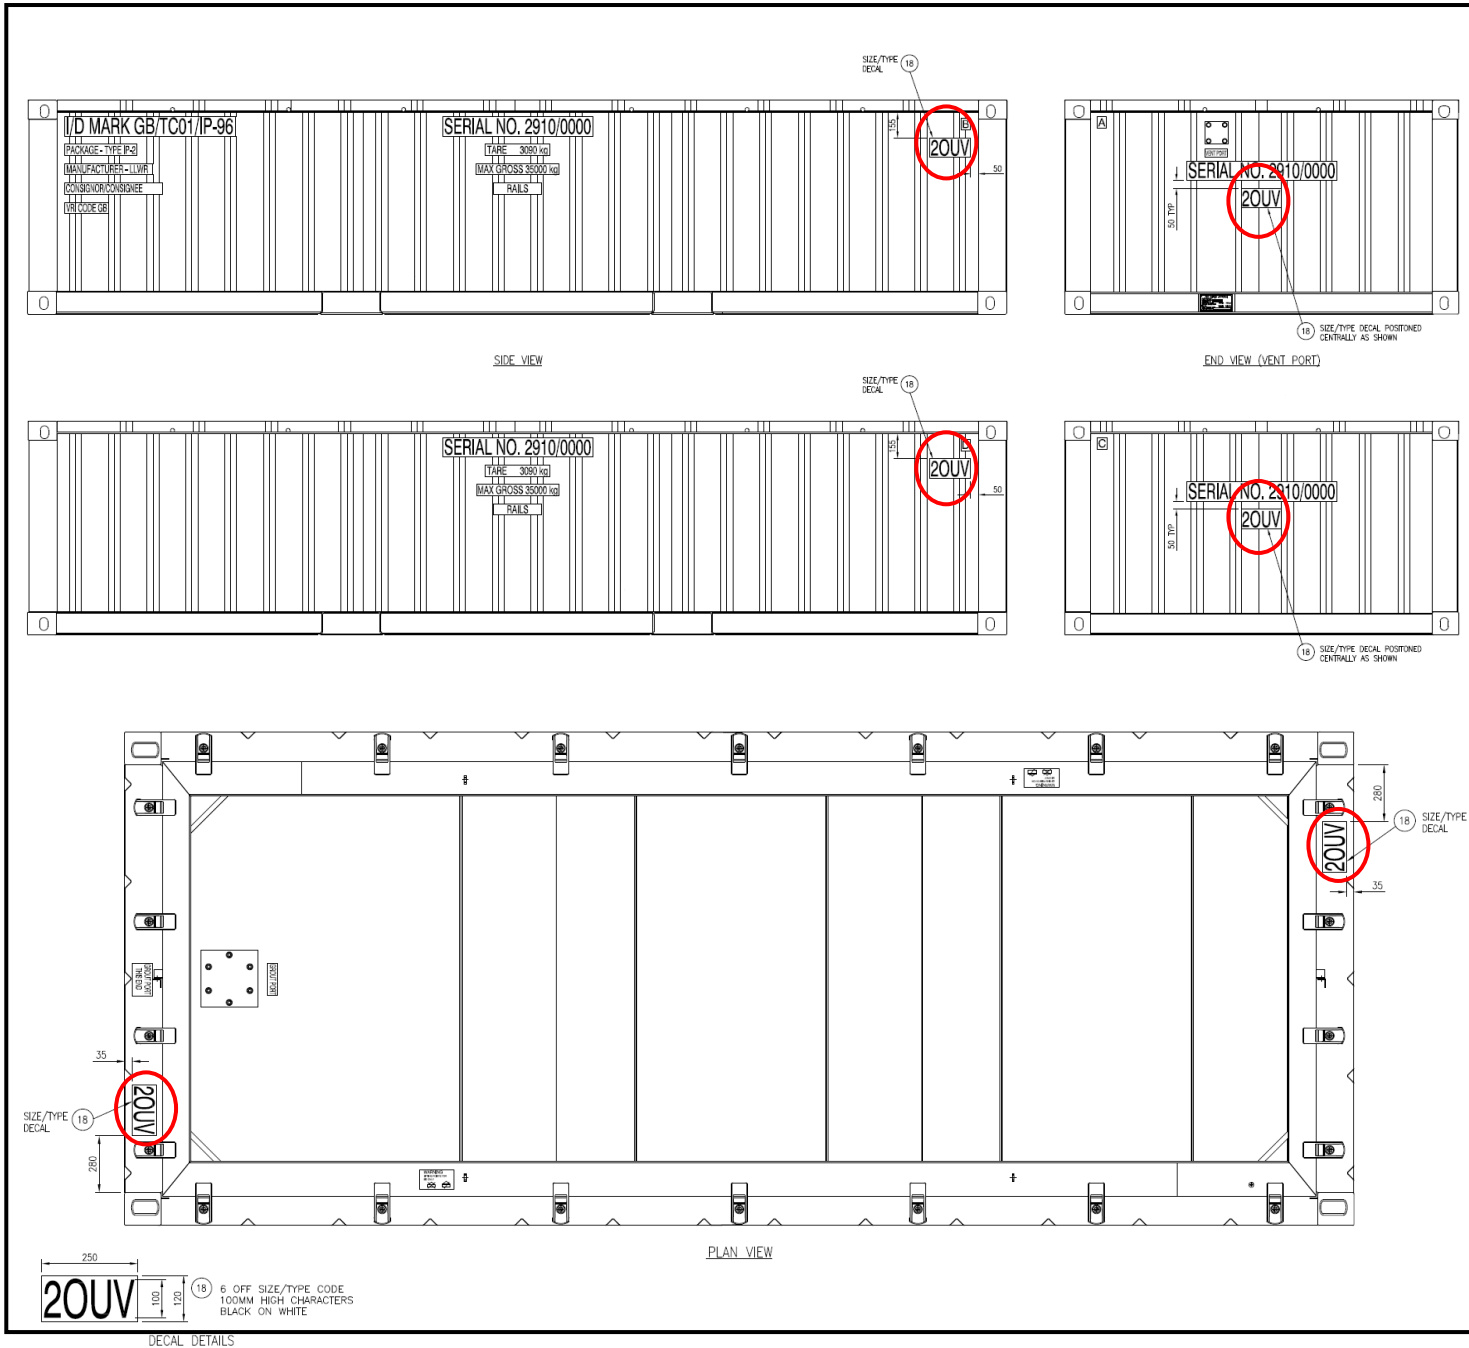
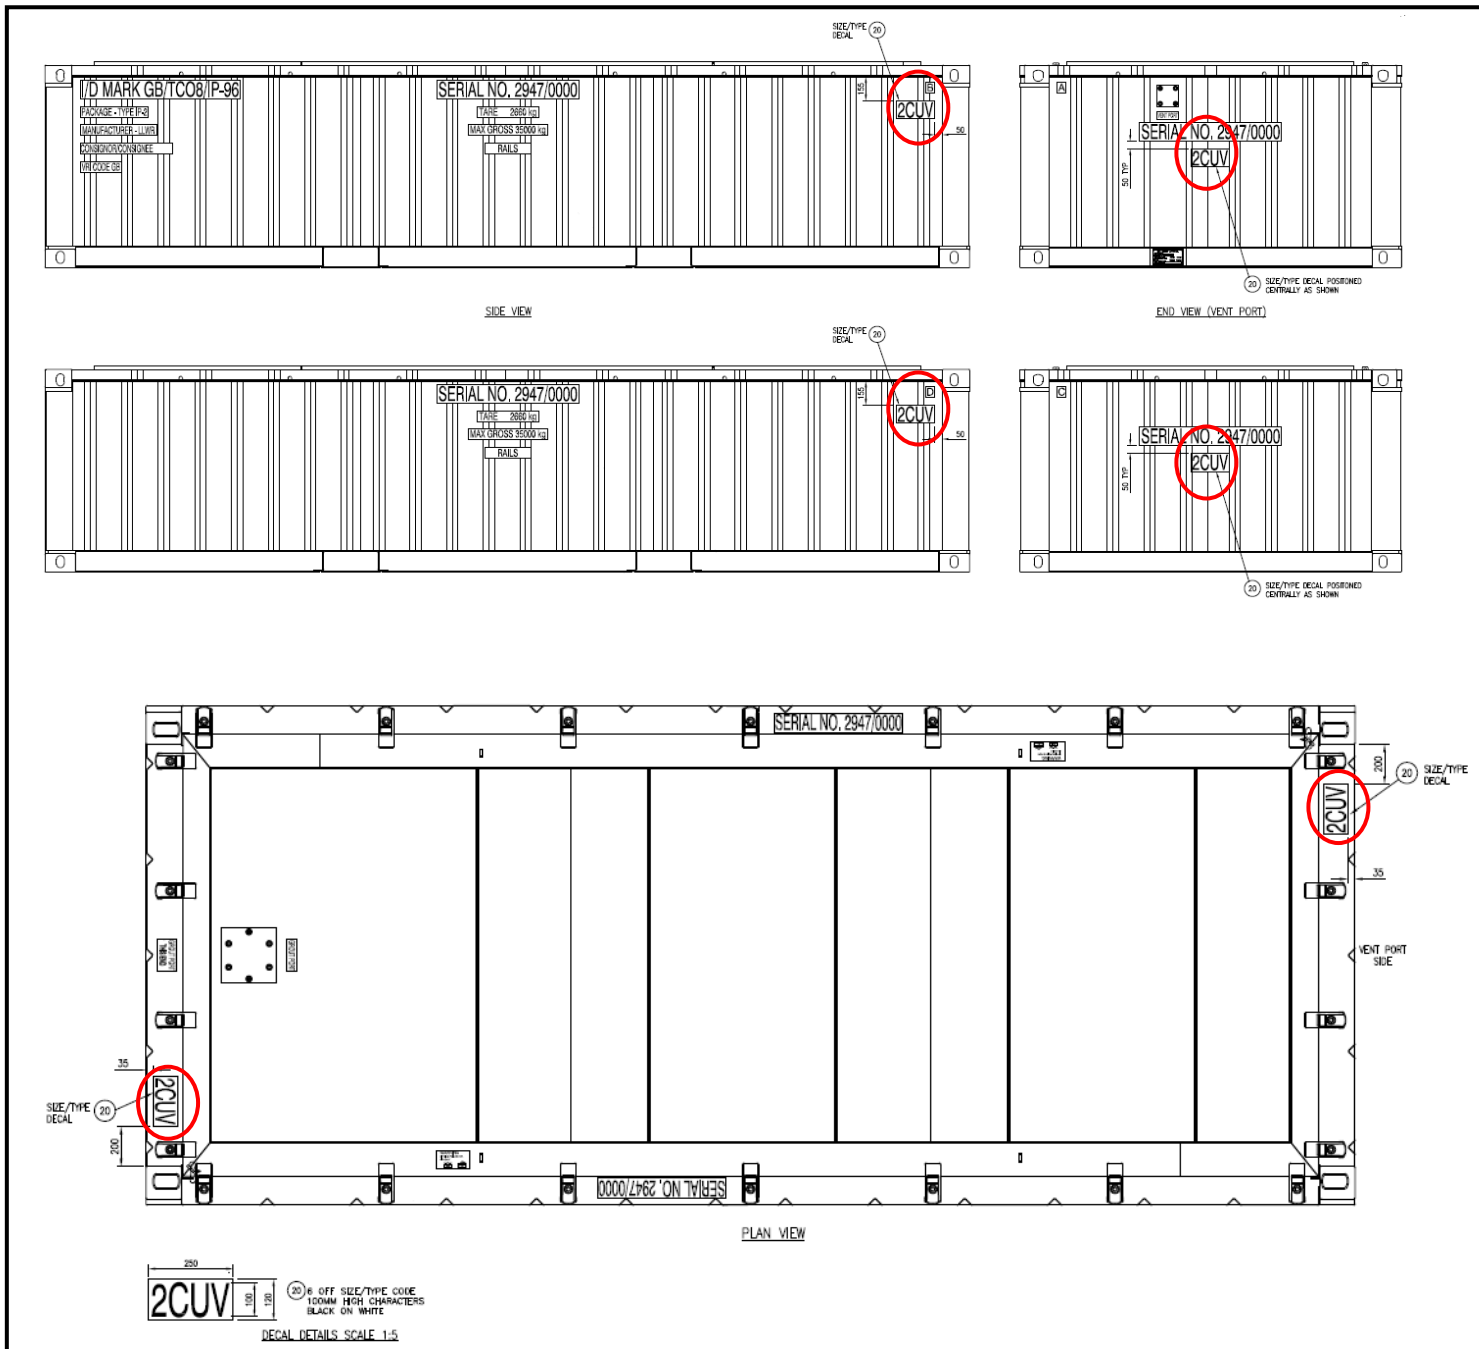

Figure 3: Correct positioning of reduced stacking decals on the TC01
Figure 4: Correct positioning of reduced stacking decals on the TC08
5. Identify the 6 target locations on the package to which the decals are to be affixed (see Figure 3 for the TC01 and Figure 4 for the TC08 of Appendix 1, of this communications).